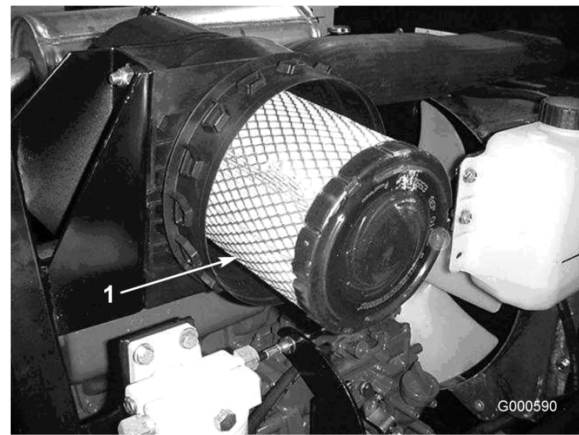

Figure 29
3. Remove and replace the primary filter (Figure 29). Cleaning of the used element is not recommended due to the possibility of damage to the filter media. Inspect the new filter for shipping damage, checking the sealing end of the filter and the body. **Do not use a damaged element.** Insert the new filter by applying pressure to the outer rim of the element to seat it in the canister. **Do not apply pressure to the flexible center of the filter.**